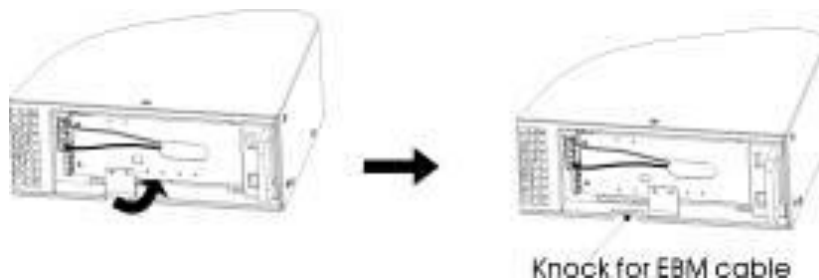

Figure9 - Removing the UPS Cable Knockout
b) On the bottom of the UPS front cover, remove the EBP cable knockout (see Figure 9).